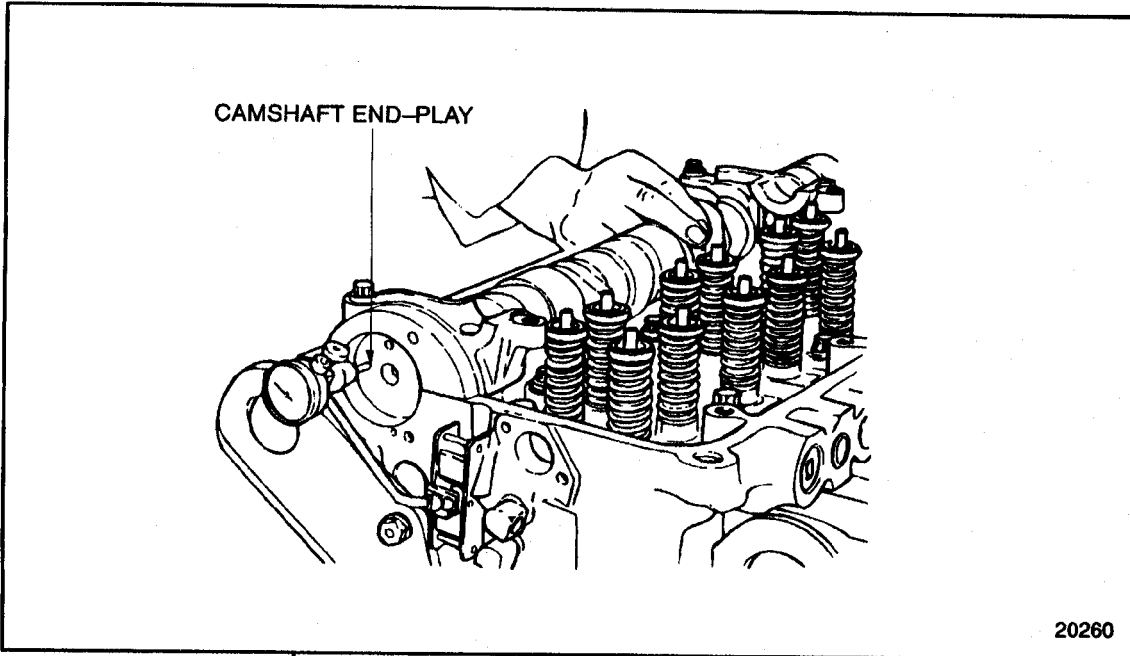

Figure 1-349 Camshaft End Play
1. Install the dial indicator so that the pointer is in contact with either the camshaft drive gear-to-camshaft retaining bolt, or at the rear end of the engine, in contact with the end of the camshaft. See Figure 1-349.